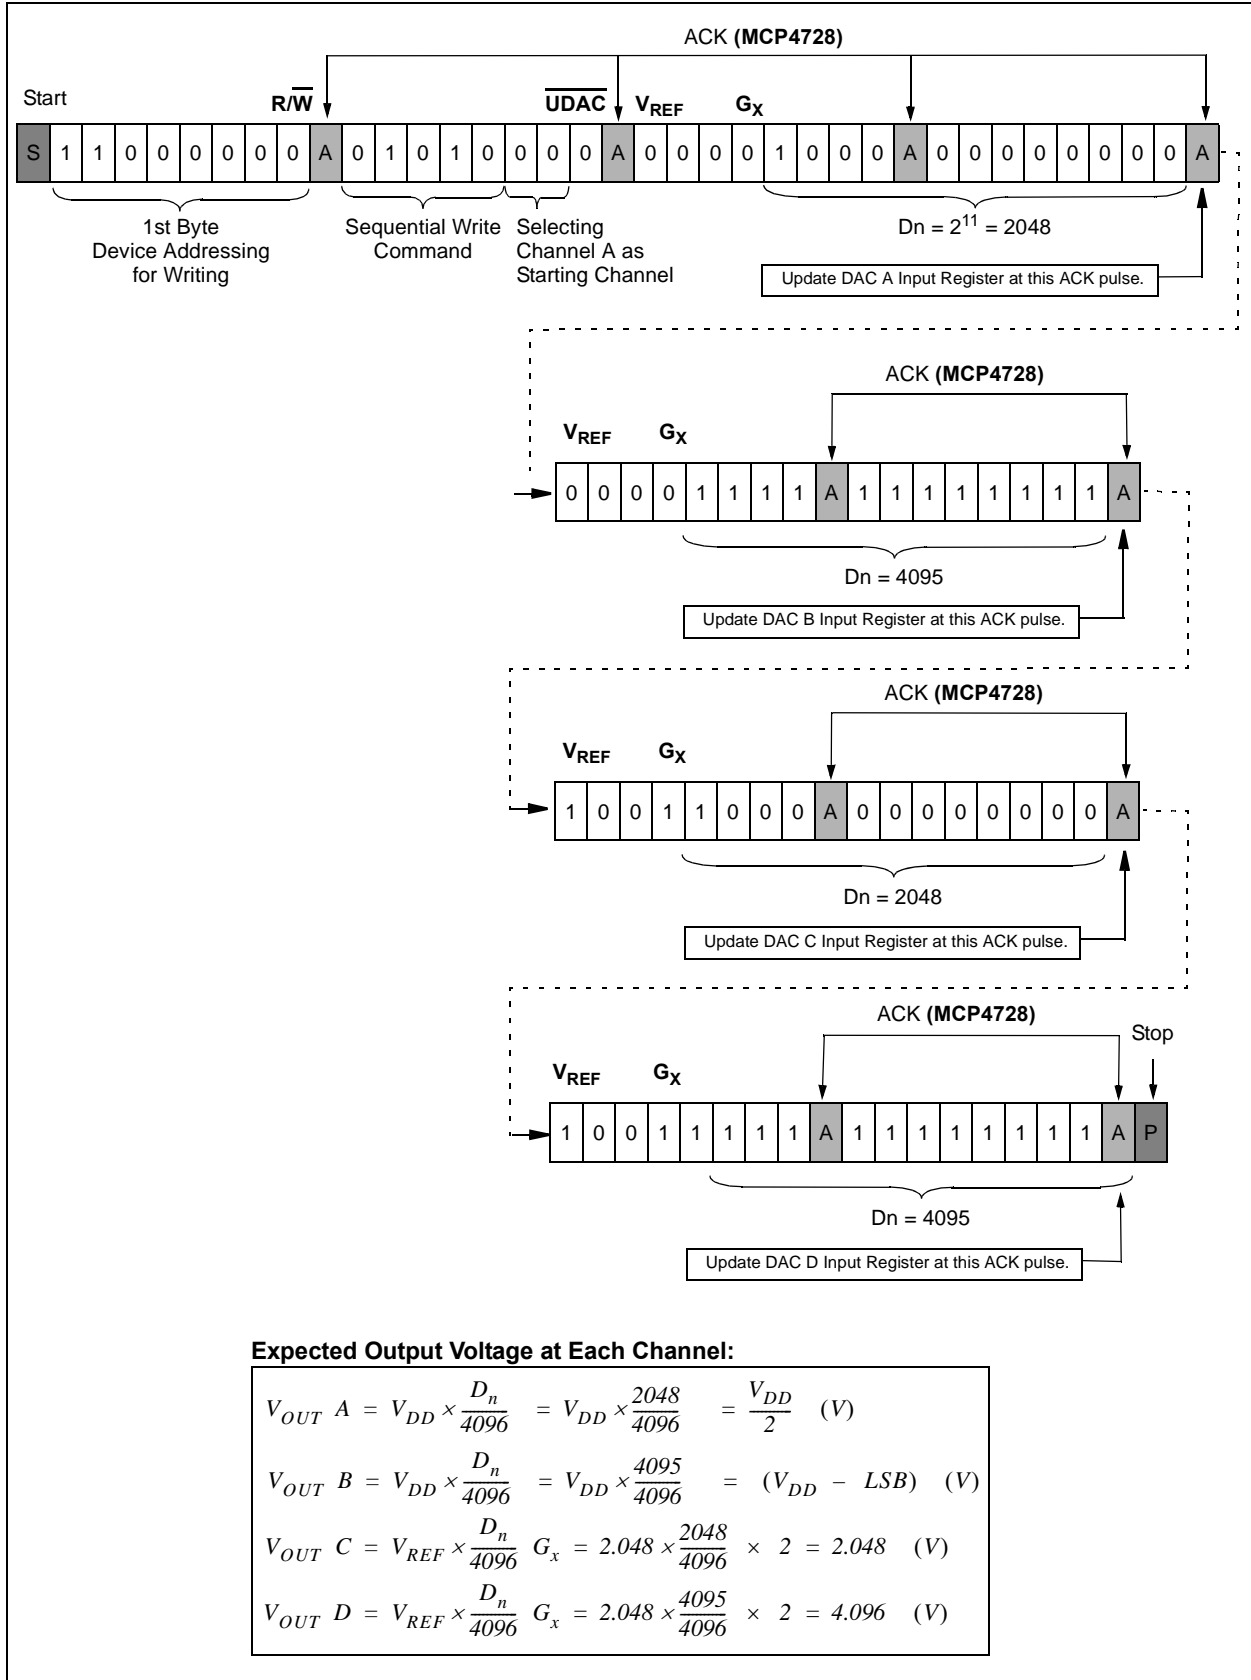
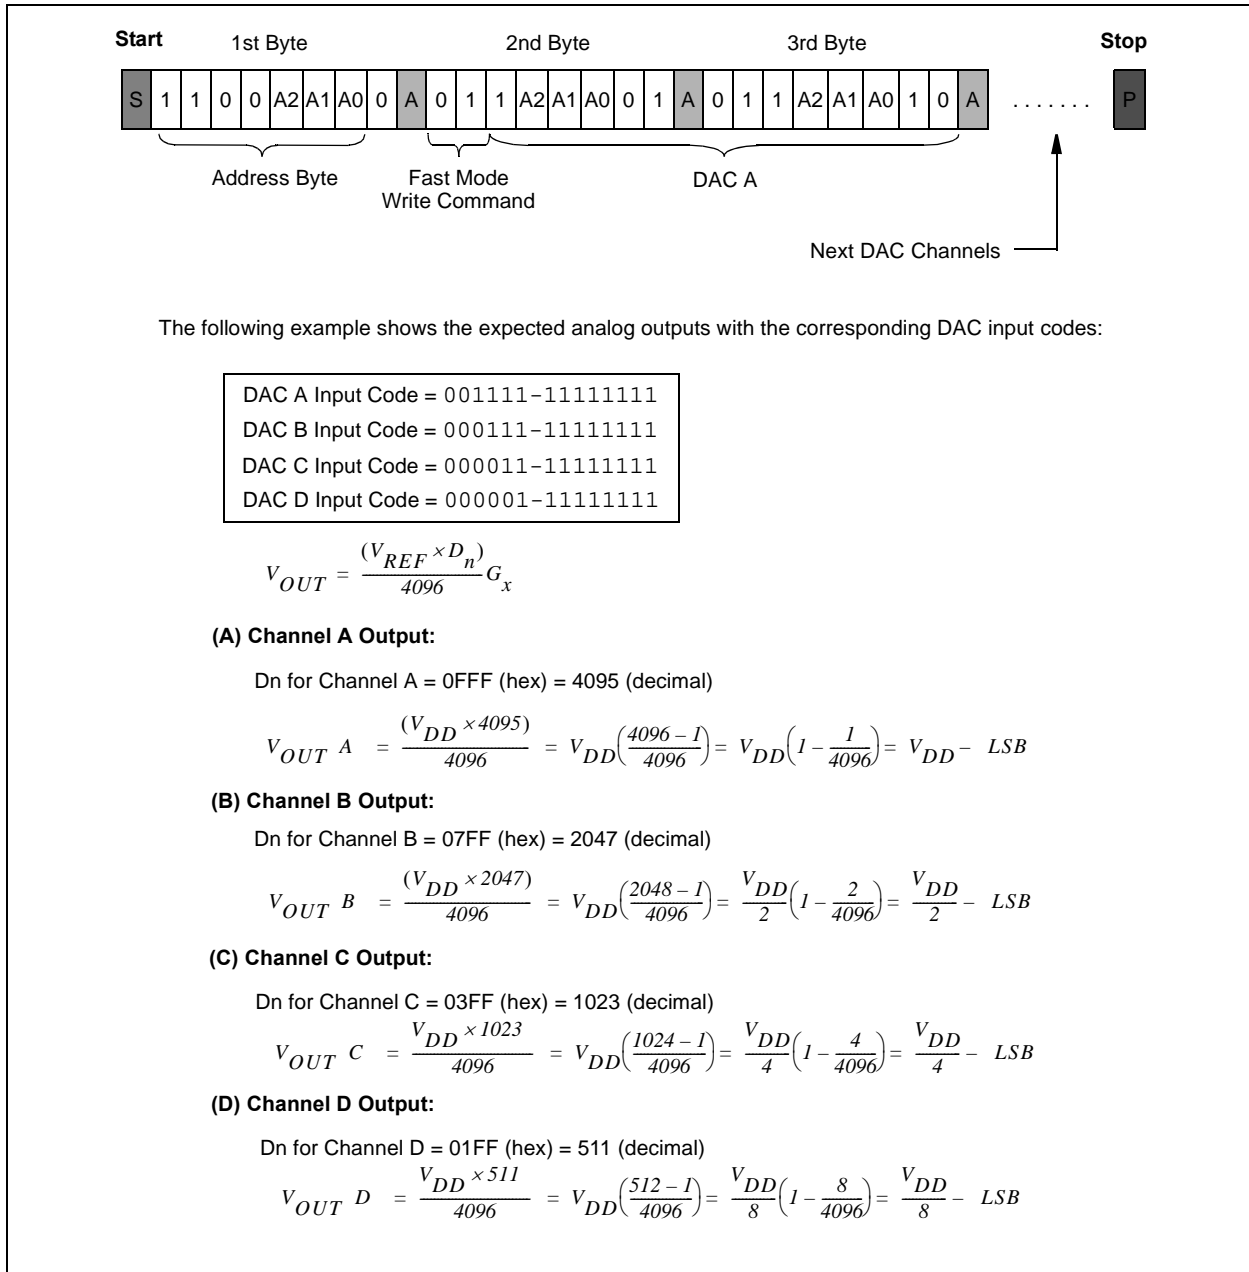

FIGURE 7-4: Sequential Write Command for Setting Test Points in Figure 7-3.
FIGURE 7-5: Example of Writing Fast Write Command for Various V_{OUT} . $V_{REF} = V_{DD}$ For All Channels.
Let us consider that the application requires different trip voltages (Trip 1 - Trip 4). Assuming the DAC output voltage requirements are given as shown in Table 7-1, examples of sending the Sequential Write and Fast Write commands are shown in Figure 7-4 and Figure 7-5.
6. Updated Figure 5-11 and Figure 7-4.